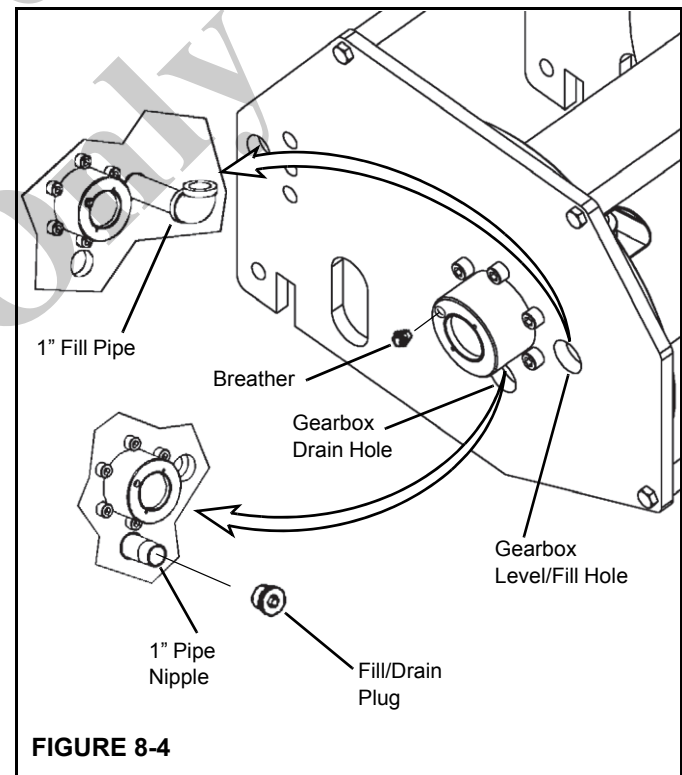

FIGURE 8-4
- Rotate the drum until the oil fill/drain plug is level with the oil level/fill inspection hole (Figure 8-4).
1. Rotate the drum until the oil/fill plug is level with the drain hole (Figure 8-4).